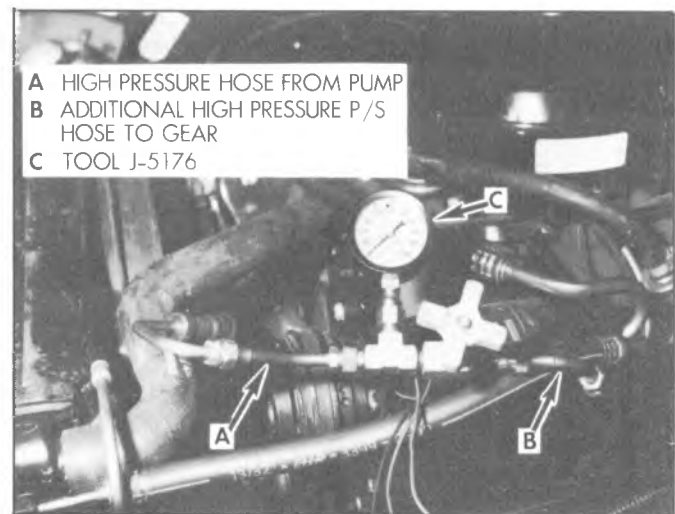

Fig. 3B-43-Checking Power Steering Pressures
1. With engine **NOT** running disconnect pressure hose from pump and install Tool J-5176 using a spare pressure hose between gauge and pump. Gauge must be between shut-off valve and pump (Fig. 3B-43). Open shut-off valve.